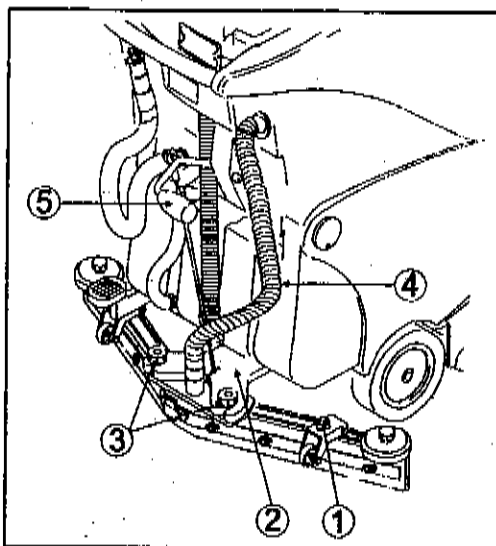

Fig. 7
- 1) check that the squeegee supporting plate (fig. 7, ref. 2) is raised, otherwise lift it by acting on the proper lever (fig. 7, ref. 5);
- 2) firmly push down the sleeve of the suction tube (fig. 7, ref. 4) into the squeegee;
- 3) slacken the two knobs (fig. 7, ref. 3) placed in the centre of the squeegee;
- 4) insert the two threaded dowels in the slots of the support (fig. 7, ref. 2);
- 5) fix the squeegee by tightening the knobs (fig. 7, ref. 3).
To obtain a perfect drying action it is necessary to adjust the squeegee in such a way that when it is in operation, the rear blade lip is bent about 45 degrees with respect to the floor at all points. It is possible to adjust the inclination of the blades by screwing down the nuts (fig. 7, ref. 1): by unscrewing the nuts the blade inclination is reduced, while by screwing the nuts the blade inclination is increased.
- check that the squeegee (fig. 2, ref. 6) is fixed well and connected to the suction tube (fig. 7, ref. 4); make sure that the rear blade is not worn.